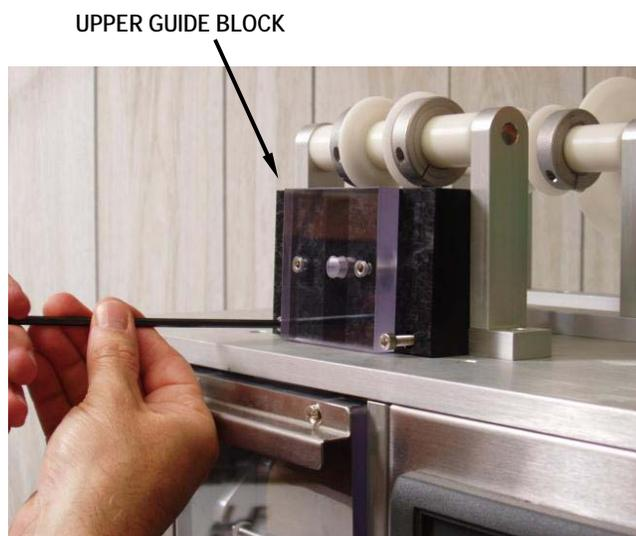

Figure 8.1
1. Remove the Upper Guide Block by using a 5/32" hex key to remove the two (2) mounting screws (fig. 8.1).